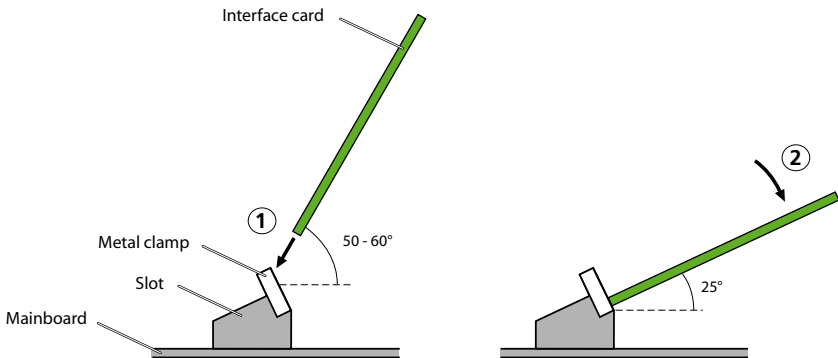

Fig. 29 Fitting an interface card
3. Place the interface card at a slight angle into the required slot (see Fig. 29). Make sure the angled side of the interface card is facing backwards (i.e. it must not project over the wiring adapter slots).